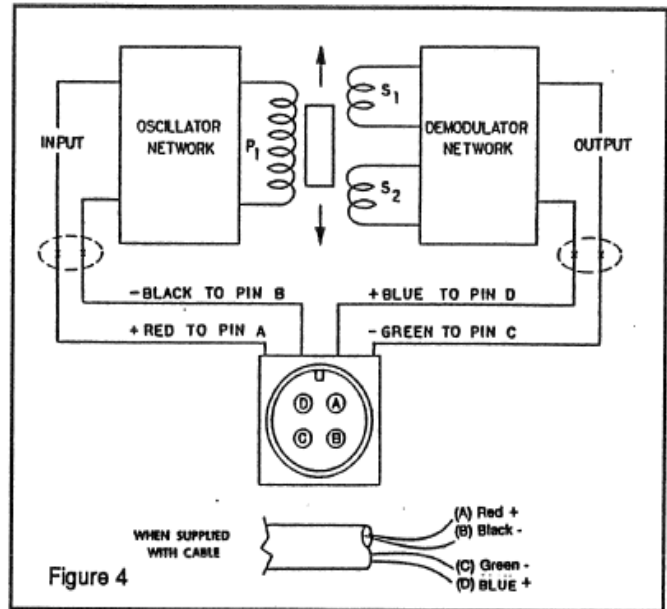

Figure 4
As illustrated in Figure 4, a DC LVDT consists of the following components:
3. Observing correct polarity, connect the positive (+) input lead to Pin A and the negative (-) input lead to Pin B. (See Figure 4).
4. Connect the positive (+) output lead to Pin D and the negative (-) output lead to Pin C. (See Figure 4)
2. Connect a voltmeter to Pins C and D (See Figure 4.)
To check, turn off power and disconnect the input and output leads. Check coil continuity and resistance. (Refer to Figure 4)